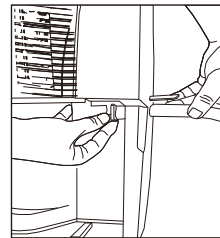

Fig.10b
- Screw the gardening hose onto the threaded portion of the tray underneath the bucket opening (Fig. 10b)